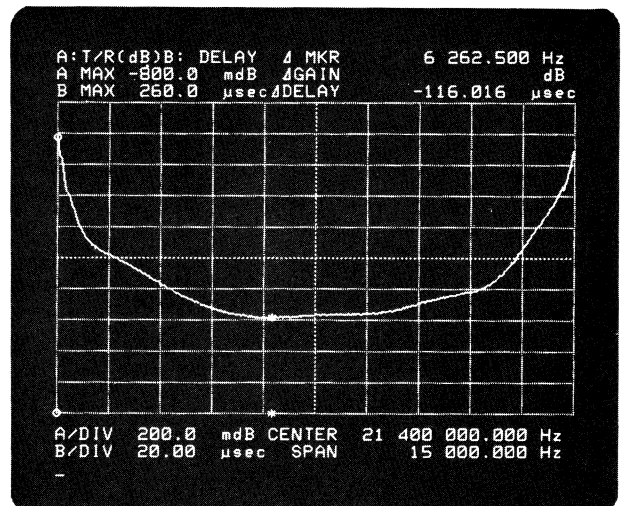

Figure 27. Group Delay Deviation Measurement
3. Press the  $\Delta F$  and  $\Delta F$  softkeys to display the group delay deviation value. (See Figure 27.)